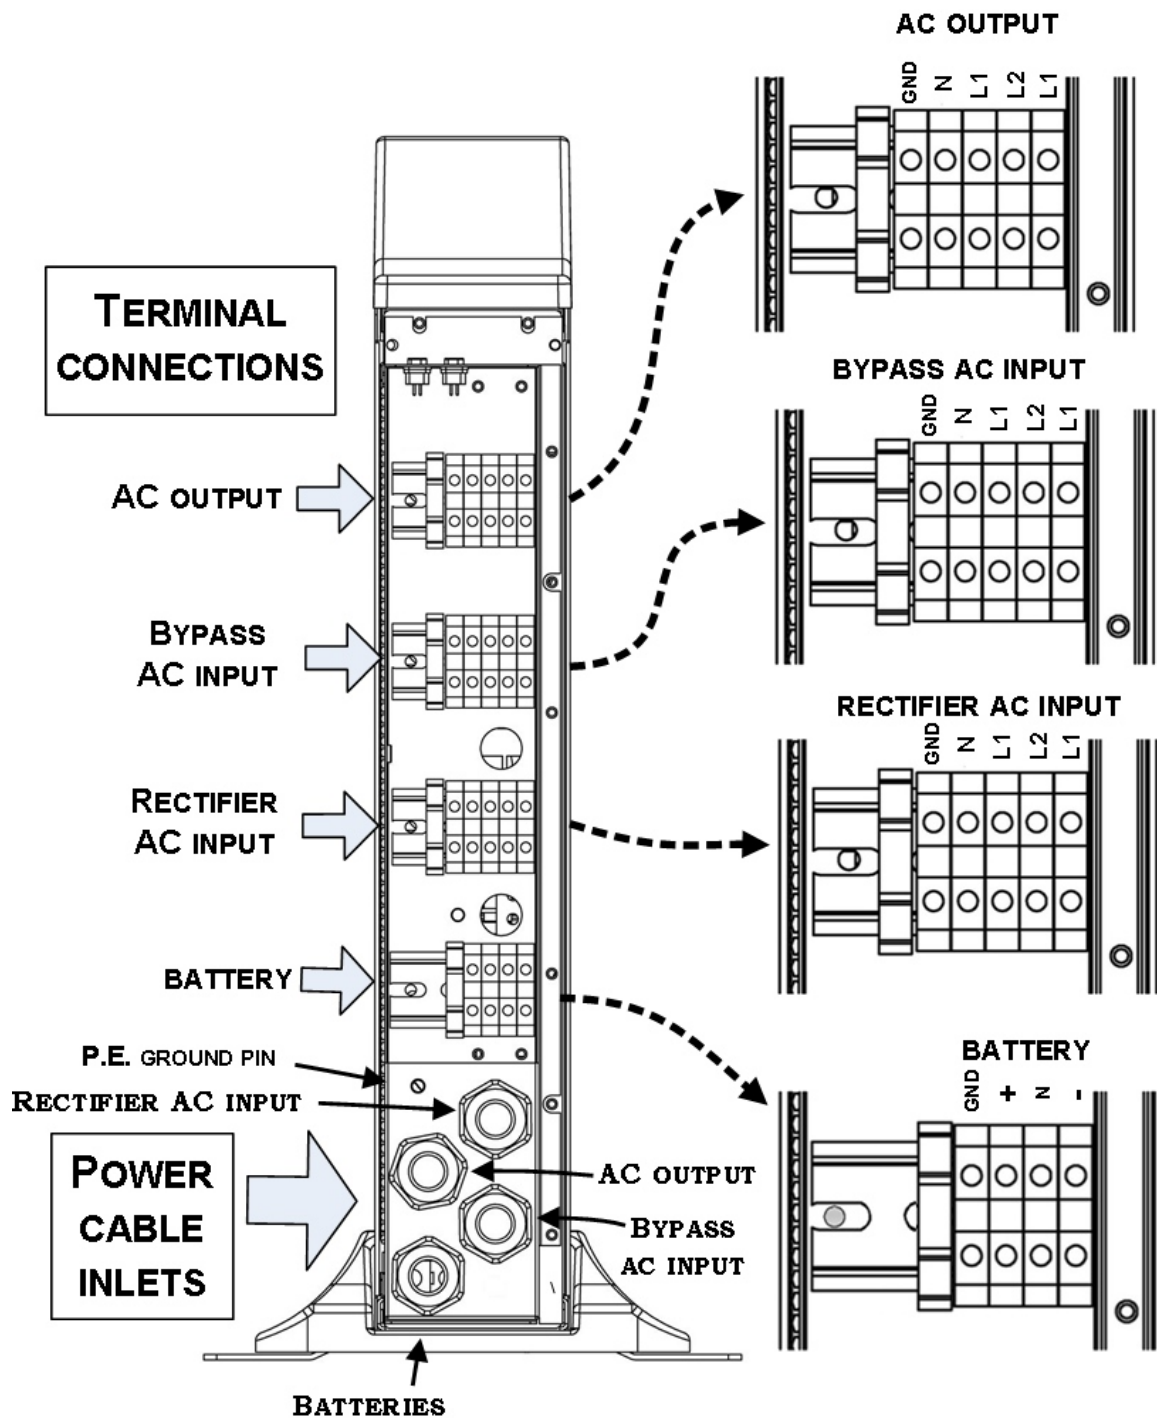

Figure 20-4: UPS rear panel view, with protective cover removed
4. Connect the UPS wiring according to the labeling on the unit, shown in Figure 20-4 on page 85.
5. Run the **ac output cable** through the cable holder labeled “ac output” in Figure 20-4 on page 85. Connect the cable to the ac output terminals, also detailed in Figure 20-4. Use the appropriate grade of wire as specified in Table 15-1 on page 64, or according to local electrical codes.
6. Run the two **ac input cables** through the cable holders labeled “ac input” and “Bypass ac input” in Figure 20-4 on page 67. Connect the cables to their
respective input terminals (“Rectifier ac input” and “Bypass ac input”), also shown in Figure 20-4. Use the appropriate grade of wire as specified in Table 15-1 on page 64, or according to local electrical codes.
7. Run the **batteries cable** through the cable holder labeled “Batteries” in Figure 20-4. Use the appropriate grade of wire as specified in Figure 20-4 on page 64, or according to local electrical codes.